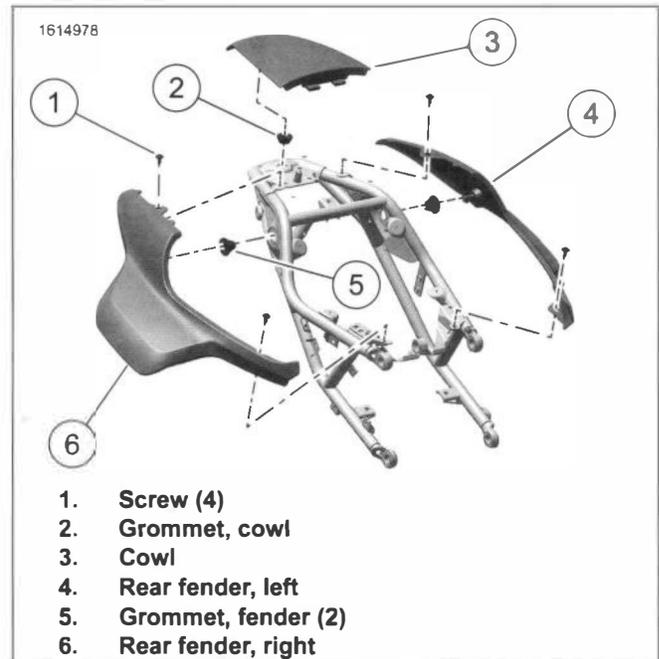

Figure 3-84. Cowl and Rear Fenders
1. See Figure 3-84. Grasp cowl (3) and lift straight up.
2. Remove and discard grommet (2) if damaged.
1. See Figure 3-84. Remove screws (1) and left rear fender (4).
2. Remove screws and right rear fender (6).
3. Remove and discard grommets (5) if damaged.
1. See Figure 3-84. Install new grommet (2) if necessary.
2. Place cowl (3) in position. Press down until cowl snaps in place.
1. See Figure 3-84. Install new grommets (5) if necessary.
2. Install left rear fender (4). Secure with screws (1). Tighten. Torque: 35.4–44.3 in-lbs (4–5 N·m) *Rear fender mounting screw*
3. Install right rear fender (6). Secure with screws (1). Tighten. Torque: 35.4–44.3 in-lbs (4–5 N·m) *Rear fender mounting screw*